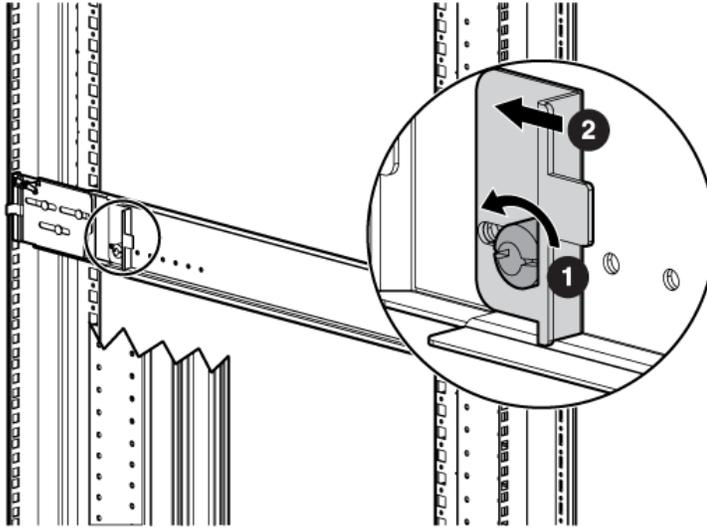

Figure 7 Locking nut and retaining bracket
3. Loosen the locking nut (1, Figure 7) on the shipping retaining bracket (2) and slide the bracket to the farthest position on the rear of the rail. This moves the bracket out of the way to allow you to install the chassis in the rails.
Figure 7 shows a disk enclosure rail and bracket. If you are installing a longer chassis into your cabinet, such as a chassis for a controller enclosure, see Attach the brackets for a longer chassis for additional information.